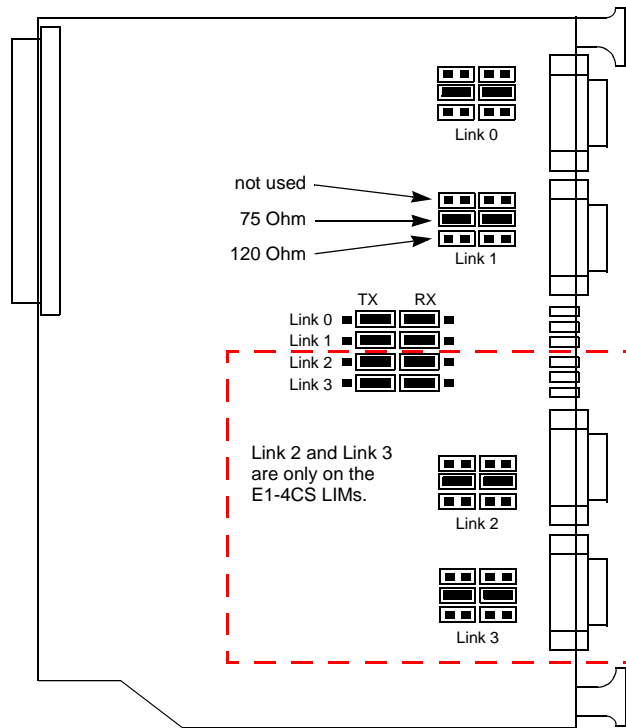

Figure 5-10 E1-2CS and E1-4CS LIM Jumper Positions
Each link on the E1-2CS or E1-4CS LIM has a group of jumpers that must be set to 75 ohms unbalanced or 120 ohms balanced operation. The jumpers are located near their associated link connector (Figure 5-10). The two jumpers for each channel must be positioned in either the middle row of pins (75 ohms unbalanced) or the lower row (120 ohms balanced)
On the E1 LIMs, you must ensure TX and RX jumpers are positioned properly in order to connect TX and RX shields to chassis ground. These jumpers are located towards the center of the LIM, as shown in Figure 5-10. There are four rows of six pins, one row for each Link. The left-most set pins are the TX setting for each Link; the right-most set of pins are the RX setting for each Link.
- With the jumpers set as shown in Figure 5-10, the TX and RX shields for each Link (DB15 pins 12 and 10, respectively) are connected to chassis ground.